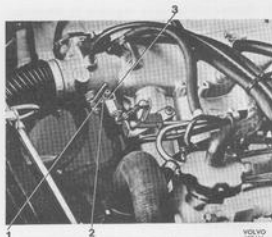

Fig. 2-192. Stop screw for throttle valve
1. Release the locknut for the throttle valve stop screw (1, Fig. 2-192), and back the screw a couple of threads so that it is not against the stop on the throttle valve shaft. Check to make sure that the valve is fully closed.